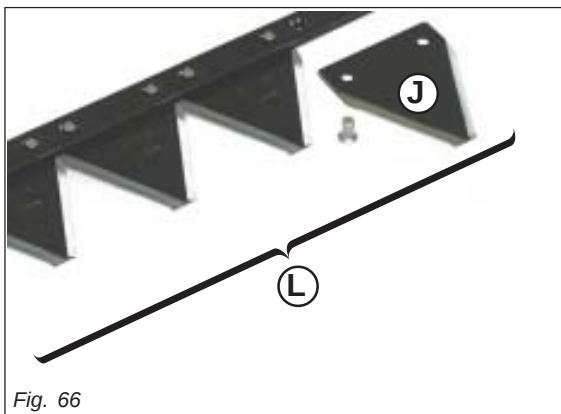

Fig. 66
Replacement of section-holding bar (L, fig. 66)
Replacement of sections (J, fig. 66)
- Rivet a new section with the rivets provided (J, Fig. 66).